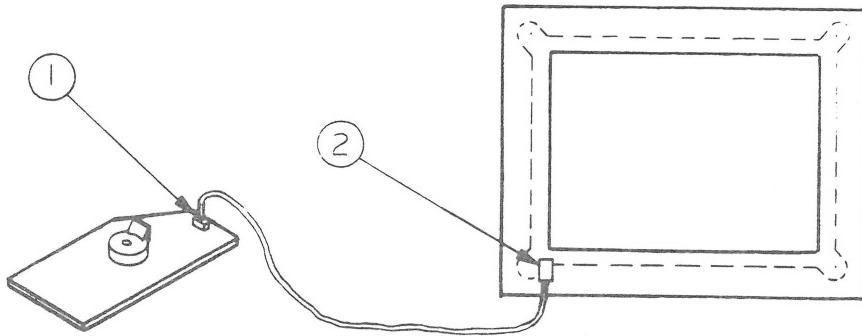

FIGURE 15
Remove	<ol style="list-style-type: none">1. Remove the rear cover.2. Discharge the CRT.3. Remove the main logic board.4. Disconnect the LED cable from connector LE on the CRT video board (Figure 15, #1). Cut any cable ties that prevent the cable from being removed from the CRT video board.
1. Position the LED assembly in the plastic holder so that its wires point toward the nearest corner (Figure 15, #2).
5. Connect the LED cable to its connector on the CRT video board (Figure 15, #1).